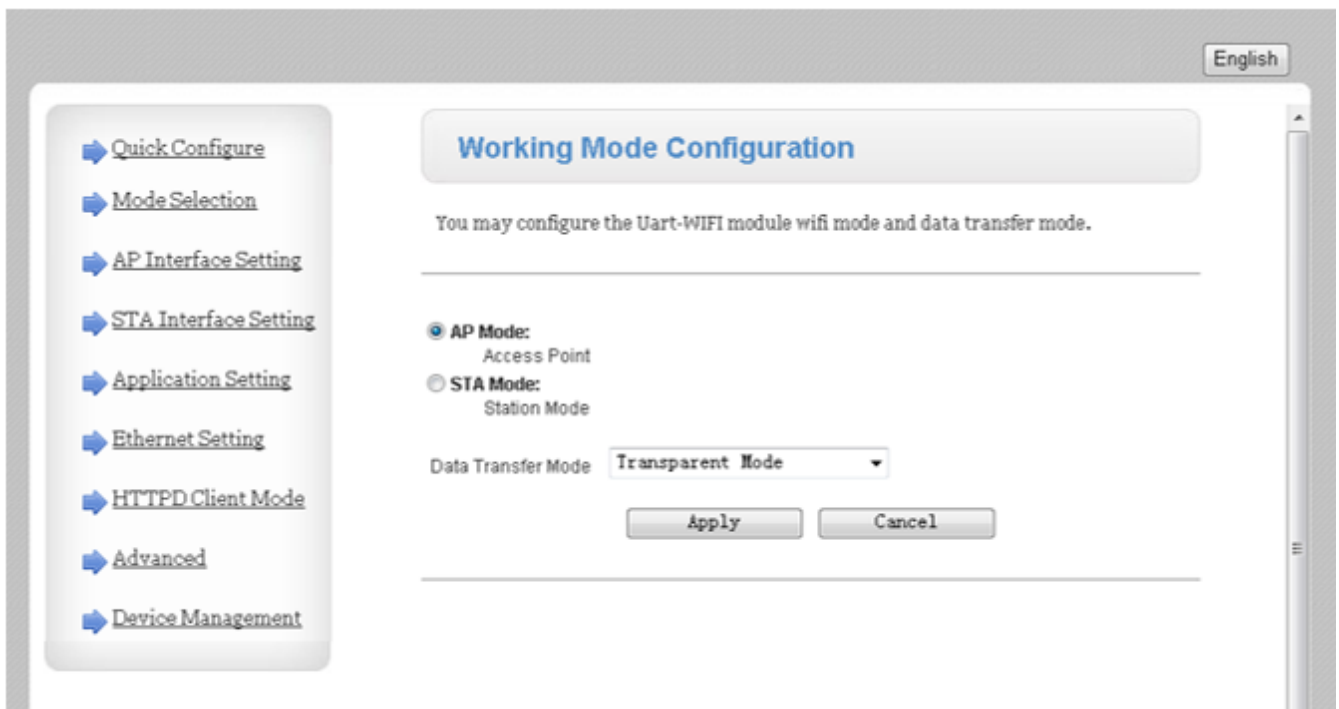

Figure 5
B. Click OK to enter the wireless network interface converter setting, as shown in Figure 5;